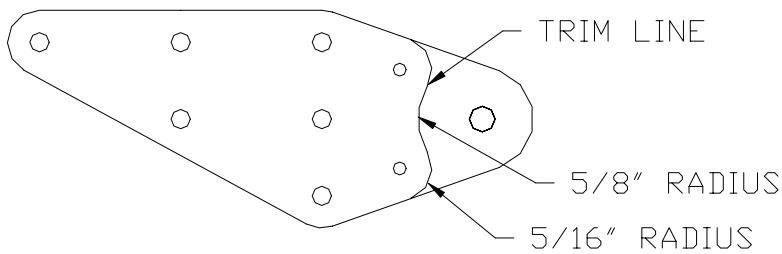

Figure 9.13.3
- 9) On the two inner fittings mark and trim as in Figure 9.13.3.